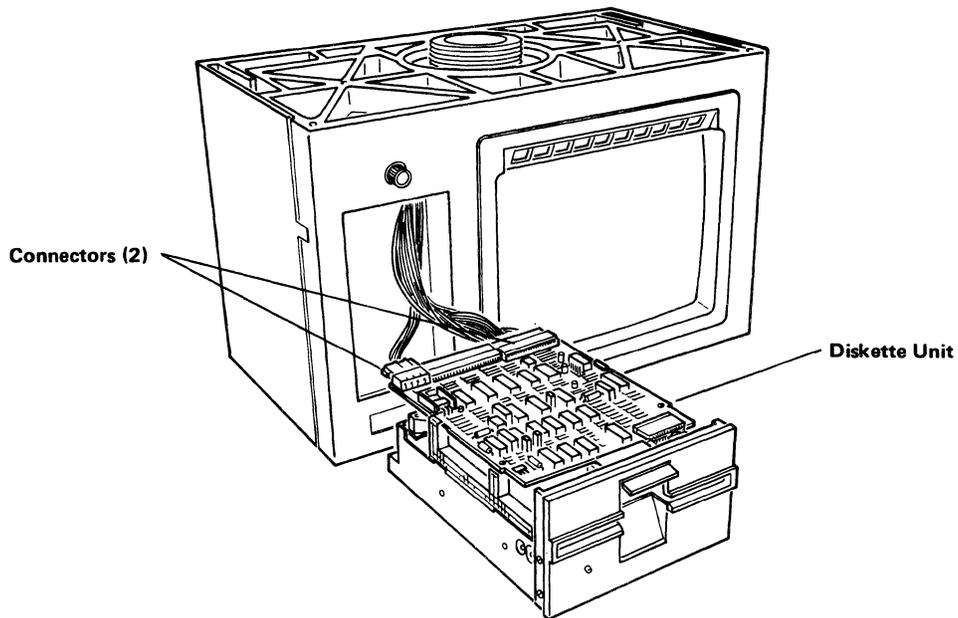

Figure 4-33. 5 1/4" Diskette Unit.
7. Loosen the two (2) mounting screws and slide the diskette unit out through the front of the display (See Figure 4-33).
1. Connect the two connectors to the new diskette unit. Be sure the connectors are correctly seated (See Figure 4-33).
2. Carefully slide the new diskette unit into the CRT display unit housing and secure it with the two (2) mounting screws (See Figure 4-33).